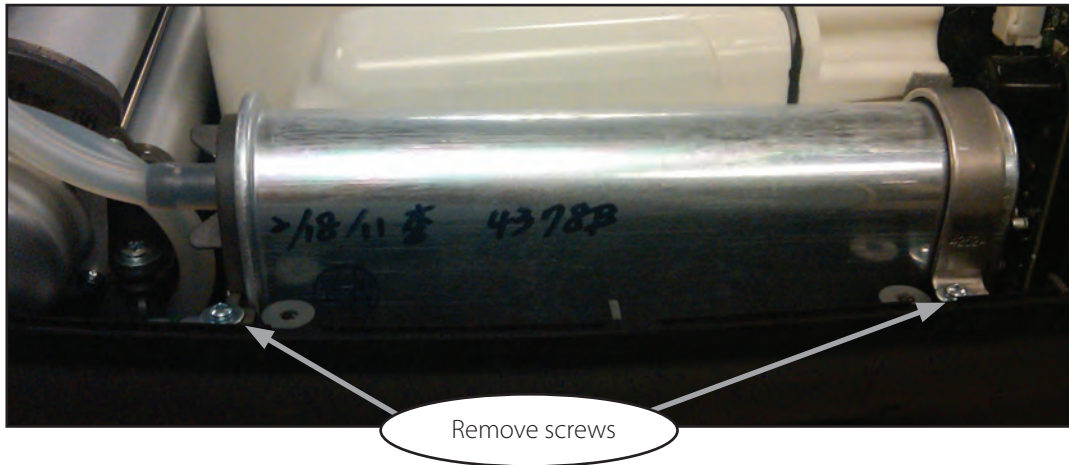

Fig 50: Remove screws
- 7) Locate the 2 screws that hold the securing straps and the product tank in place, remove the screws. Set aside for re-installation. Figure 50.